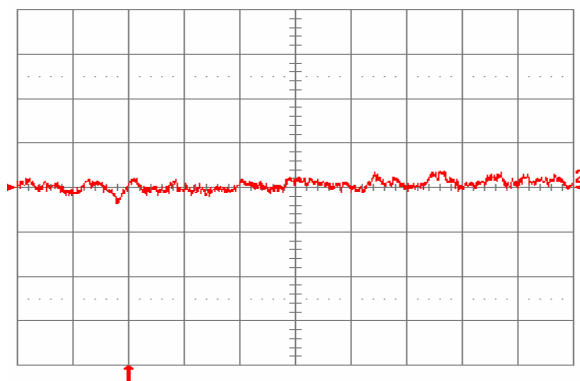

**Fig. 12V.14:** Test Setup for measuring input reflected ripple currents,  $i_c$  and  $i_s$ .
**Fig. 12V.1:** Available load current vs. ambient air temperature and airflow rates for SQ48T04120 converter with D height pins mounted vertically with  $V_{in} = 48\text{ V}$ , air flowing from pin 3 to pin 1, and maximum FET temperature  $\leq 120^\circ\text{C}$ .
**Fig. 12V.2:** Available load current vs. ambient air temperature and airflow rates for SQ48T04120 converter with D height pins mounted horizontally with  $V_{in} = 48\text{ V}$ , air flowing from pin 3 to pin 1, and maximum FET temperature  $\leq 120^\circ\text{C}$ .
**Fig. 12V.3:** Available load current vs. ambient air temperature and airflow rates for SQ48S04120 converter mounted vertically with  $V_{in} = 48$  V, air flowing from pin 3 to pin 1, and maximum FET temperature  $\leq 120$  °C.
**Fig. 12V.4:** Available load current vs. ambient air temperature and airflow rates for SQ48S04120 converter mounted horizontally with  $V_{in} = 48$  V, air flowing from pin 3 to pin 1, and maximum FET temperature  $\leq 120$  °C.
**Fig. 12V.5:** Efficiency vs. load current and input voltage for SQ48T/S04120 converter mounted vertically with air flowing from pin 3 to pin 1 at a rate of 300 LFM (1.5 m/s) and  $T_a = 25$  °C.
**Fig. 12V.6:** Efficiency vs. load current and ambient temperature for SQ48T/S04120 converter mounted vertically with  $V_{in} = 48$  V and air flowing from pin 3 to pin 1 at a rate of 200 LFM (1.0 m/s).
**Fig. 12V.7:** Power dissipation vs. load current and input voltage for SQ48T/S04120 converter mounted vertically with air flowing from pin 3 to pin 1 at a rate of 300 LFM (1.5 m/s) and  $T_a = 25^\circ\text{C}$ .
**Fig. 12V.8:** Power dissipation vs. load current and ambient temperature for SQ48T/S04120 converter mounted vertically with  $V_{in} = 48\text{ V}$  and air flowing from pin 3 to pin 1 at a rate of 200 LFM (1.0 m/s).
**Fig. 12V.9:** Turn-on transient at full rated load current (resistive) with no output capacitor at  $V_{in} = 48\text{ V}$ , triggered via ON/OFF pin. Top trace: ON/OFF signal (5 V/div.). Bottom trace: output voltage (5 V/div.). Time scale: 1 ms/div.
**Fig. 12V.10:** Turn-on transient at full rated load current (resistive) plus 1,000  $\mu\text{F}$  at  $V_{in} = 48\text{ V}$ , triggered via ON/OFF pin. Top trace: ON/OFF signal (5 V/div.). Bottom trace: output voltage (5 V/div.). Time scale: 2 ms/div.
**Fig. 12V.11:** Output voltage response to load current step-change (1 A – 2 A – 1 A) at  $V_{in} = 48$  V. Top trace: output voltage (200 mV/div.). Bottom trace: load current (1 A/div.). Current slew rate: 0.1 A/ $\mu$ s.  $C_o = 1$   $\mu$ F ceramic. Time scale: 0.5 ms/div.
**Fig. 12V.12:** Output voltage response to load current step-change (1 A – 2 A – 1 A) at  $V_{in} = 48$  V. Top trace: output voltage (200 mV/div.). Bottom trace: load current (1 A/div.). Current slew rate: 5 A/ $\mu$ s.  $C_o = 47$   $\mu$ F tantalum + 1  $\mu$ F ceramic. Time scale: 0.5 ms/div.
**Fig. 12V.13:** Output voltage ripple (50 mV/div.) at full rated load current into a resistive load with  $C_o = 10$   $\mu$ F tantalum + 1  $\mu$ F ceramic and  $V_{in} = 48$  V. Time scale: 1  $\mu$ s/div.
**Fig. 12V.15:** Input reflected ripple current,  $i_c$  (100 mA/div.), measured at input terminals at full rated load current and  $V_{in} = 48$  V. Refer to Fig. 12V.14 for test setup. Time scale: 1  $\mu$ s/div.
**Fig. 12V.16:** Input reflected ripple current,  $i_s$  (10 mA/div.), measured through 10  $\mu$ H at the source at full rated load current and  $V_{in} = 48$  V. Refer to Fig. 12V.14 for test setup. Time scale: 1  $\mu$ s/div.
**Fig. 12V.17:** Output voltage vs. load current showing current limit point and converter shutdown point. Input voltage has almost no effect on current limit characteristic.
**Fig. 12V.18:** Load current (top trace, 5 A/div., 20 ms/div.) into a 10  $m\Omega$  short circuit during restart, at  $V_{in} = 48$  V. Bottom trace (5 A/div., 1 ms/div.) is an expansion of the on-time portion of the top trace.